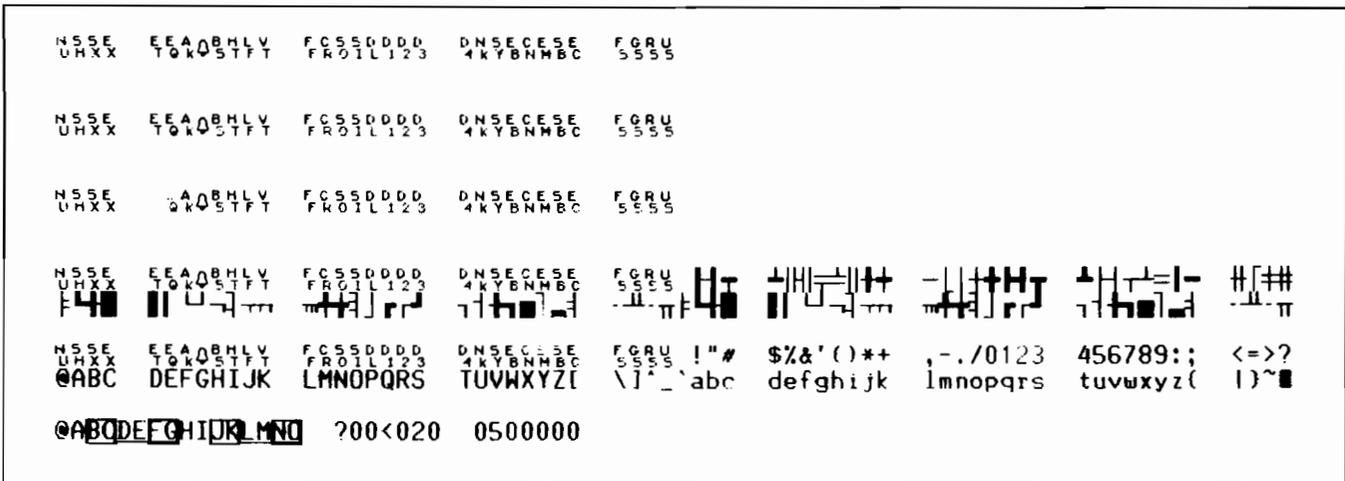

Figure 9-1. Screen Test Pattern
4. Displays the test pattern shown in figure 9-1 or 9-2 (depending upon whether or not the terminal includes the optional extended character set) in the cursor active window on the screen.